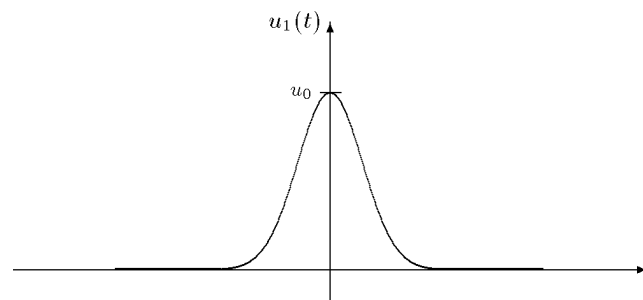

Figure 22-2: Gaussian pulse
1. Gaussian pulse GAUSS / GAUSS (see Figure 22-2)